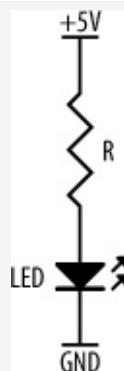

Figure 4-51. Using a resistor to limit the current flow through a LED
destroy the LED. For this reason, LEDs are used in conjunction with a current-limiting resistor. Figure 4-51 shows such a circuit. Some LEDs will incorporate a current-limiting resistor internally. However, most do not, so it is important to check the manufacturer's datasheet. Generally, you'll need to include the resistor, and calculating the required value (R) is easy.